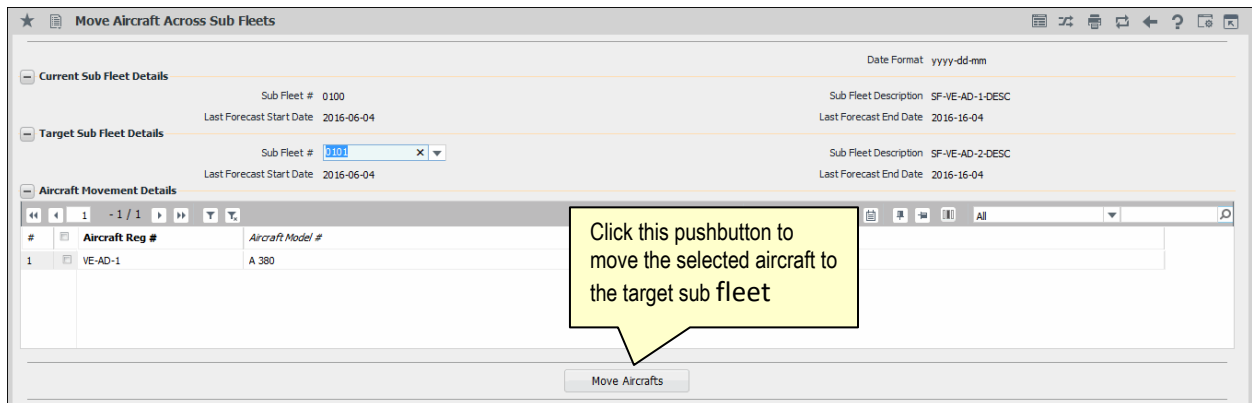

Figure 2.7 Moving aircraft to another active sub fleet
1. Select **Move Aircraft Across Sub Fleet** link in the **Edit Sub Fleet** page. The **Move Aircraft Across Sub Fleets** page appears. See Figure 2.7.